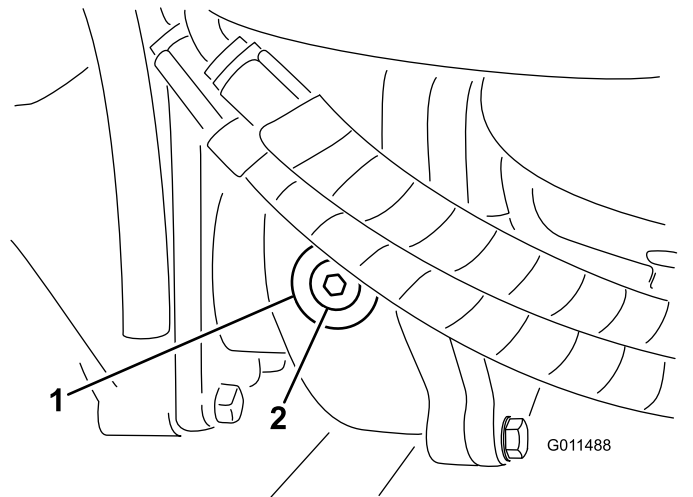

Figure 74
2. Remove the check/fill plug from the left side of the gear box and ensure that lubricant is up to the bottom of the hole (Figure 74).